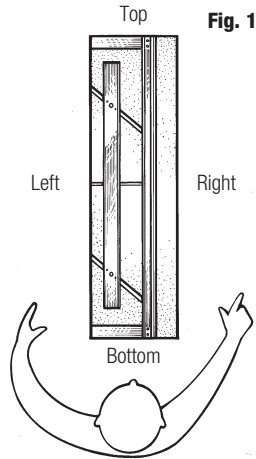
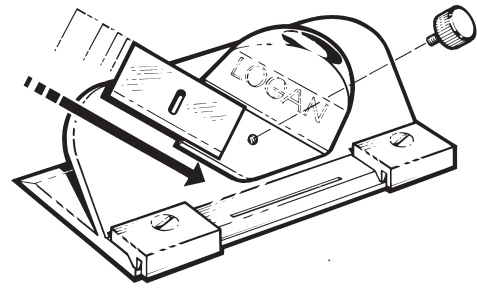

Fig. 2
Fig. 3
3. Place blade onto blade holder, sharp edge down and slide blade until corner of blade tip enters slot and hole in blade lines up with hole in blade holder (Fig. 2)(Fig. 3).